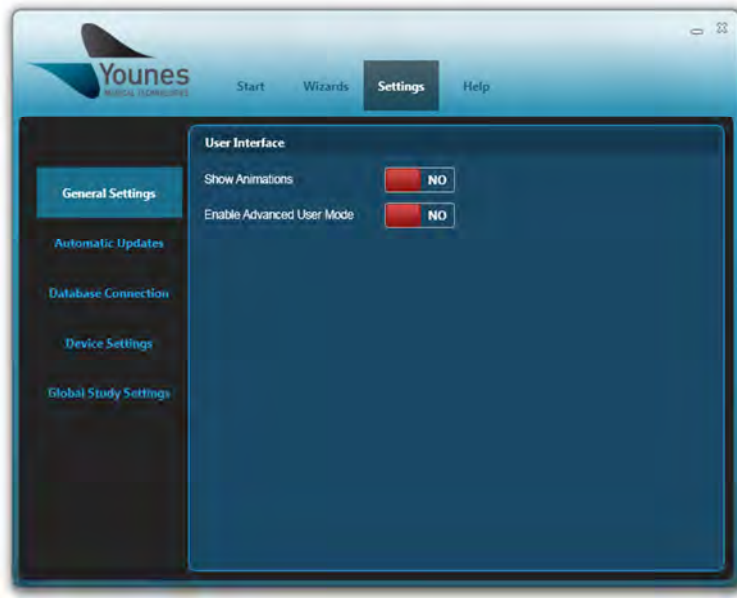

Figure 85 – Windows PC Prodigy Application User Interface Screen (General Settings)
2. Next, select the “No” button to the right of “Enable Advanced User Mode” in Figure 85.